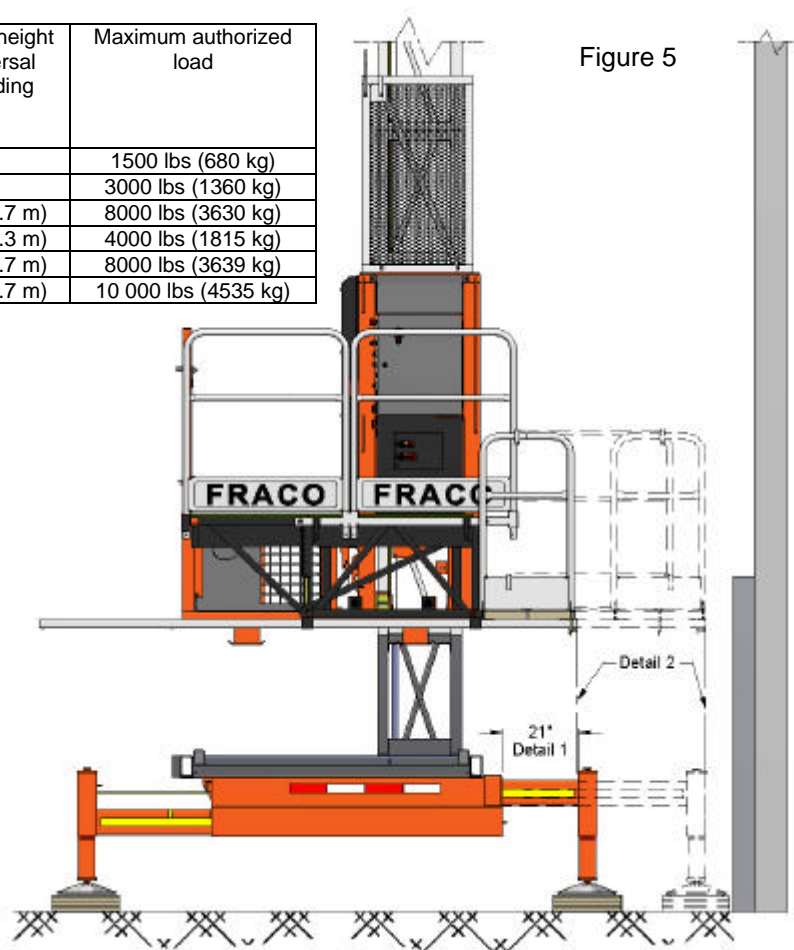

Figure 5
2. **When using the universal freestanding base**, the front and rear stabilisers must be extended to a minimum of 1'-9" (533.4 mm ). This measure is designated by the distance between the face of the stabiliser insertion tube and the jacks. (see figure 5. detail 1).
3. For any situation and for each type of platform, the planking area must never exceed the front stabilisers of the freestanding base. (see figure 5, detail 2)